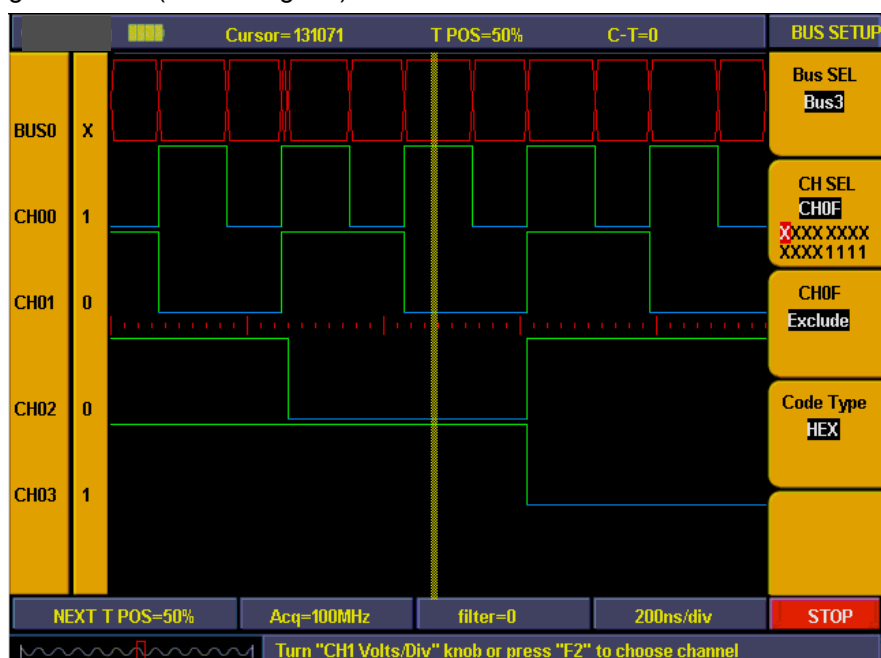

Fig 79: Bus setting
- BUS setting is finished (refer to Fig. 79).